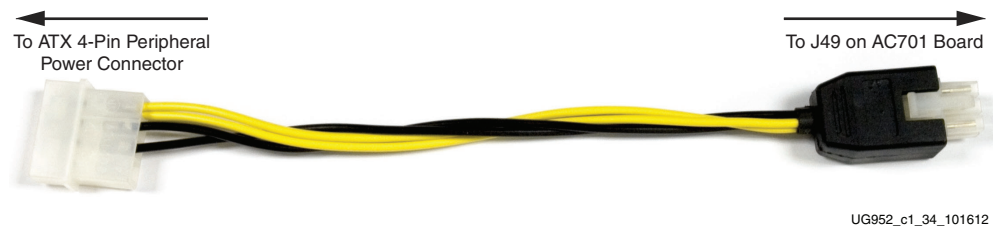

Figure D-1: ATX Power Supply Adapter Cable
When the AC701 board is used inside a computer chassis (that is, plugged in to the PCIe® slot), power is provided from the ATX power supply 4-pin peripheral connector through the ATX adapter cable shown in Figure D-1 to J49 on the AC701 board. The Xilinx part number for this cable is 2600304.
7. Connect the ATX power supply to the AC701 board using the ATX power supply adapter cable as shown in Figure D-1: